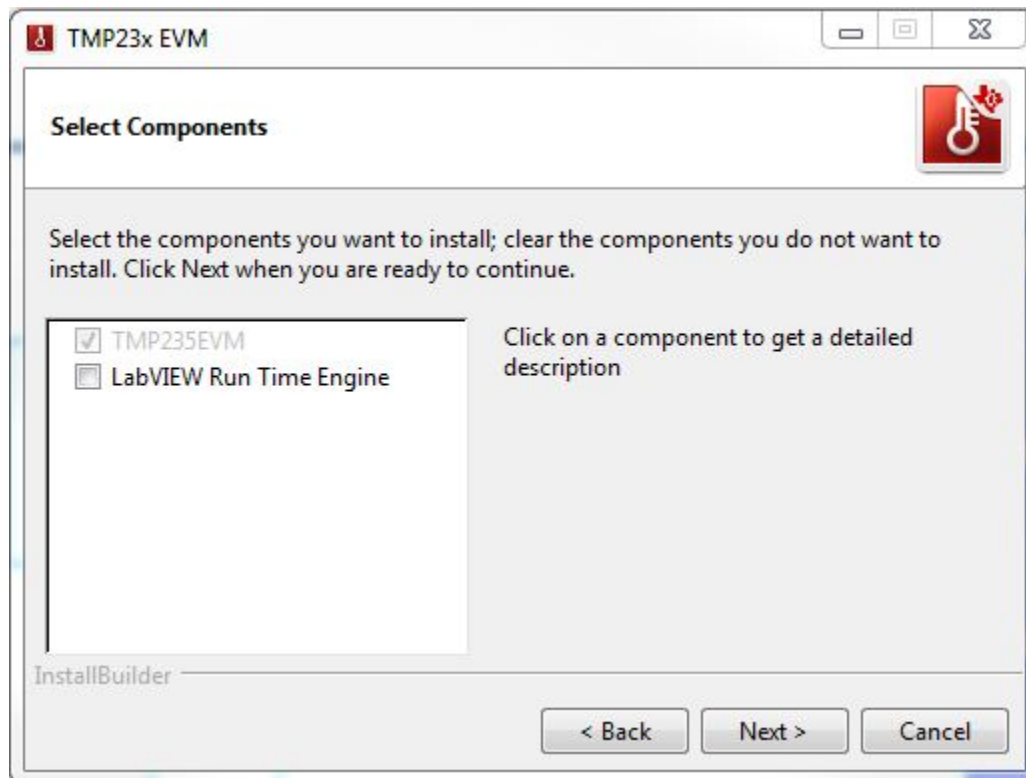

Figure 10. TMP23x EVM Select Components
6. If it is the first installation, ensure the *LabVIEW Run Time Engine* (LVRTE) is selected in Figure 10. TMP23xEVM software requires LabVIEW 2016 runtime engine for proper operation.